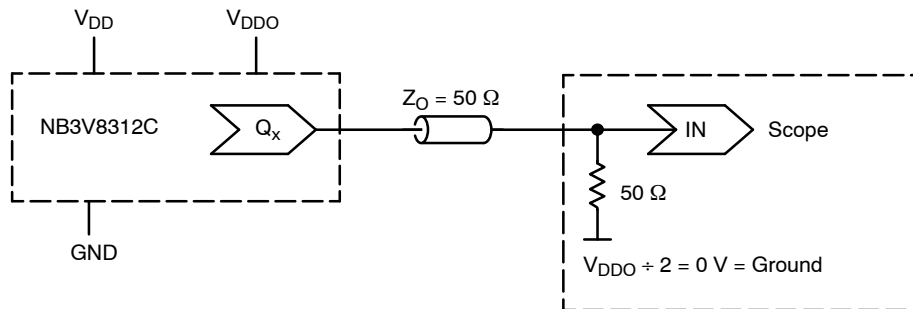

Figure 7. Typical Device Evaluation and Termination Setup – See Table 8
6. Outputs terminated $50\ \Omega$ to $V_{DDO}/2$ unless otherwise specified. See Figure 7.
7. Outputs loaded with $50\ \Omega$ to $V_{DDO}/2$; see Figure 7. CLOCK input with 50% duty cycle; minimum input amplitude = 1.2 V at $V_{DD} = 3.3\text{ V}$, 1.0 V at $V_{DD} = 2.5\text{ V}$, $V_{DD}/2$ at $V_{DD} = 1.8\text{ V}$.
7. Outputs loaded with 50Ω to $V_{DDO}/2$; see Figure 7. CLOCK input with 50% duty cycle; minimum input amplitude = 1.2 V at $V_{DD} = 3.3$ V, 1.0 V at $V_{DD} = 2.5$ V, $V_{DD}/2$ at $V_{DD} = 1.8$ V.